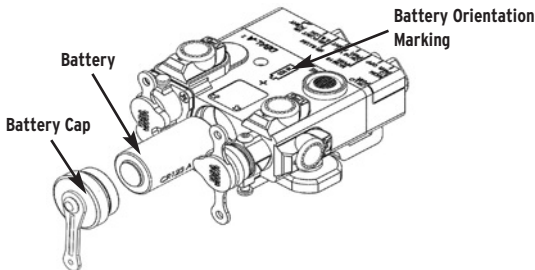

Figure 1. Battery Replacement
1. Unscrew Battery Cap (Figure 1) by turning counter clockwise.
2. Remove used batteries (Figure 1) and dispose in accordance with local procedures.
Proper battery orientation is clearly marked on the AN/PEQ-15A housing. Insert new Battery (Figure 1) and replace and tighten the Battery Cap (Figure 1) by turning clockwise.